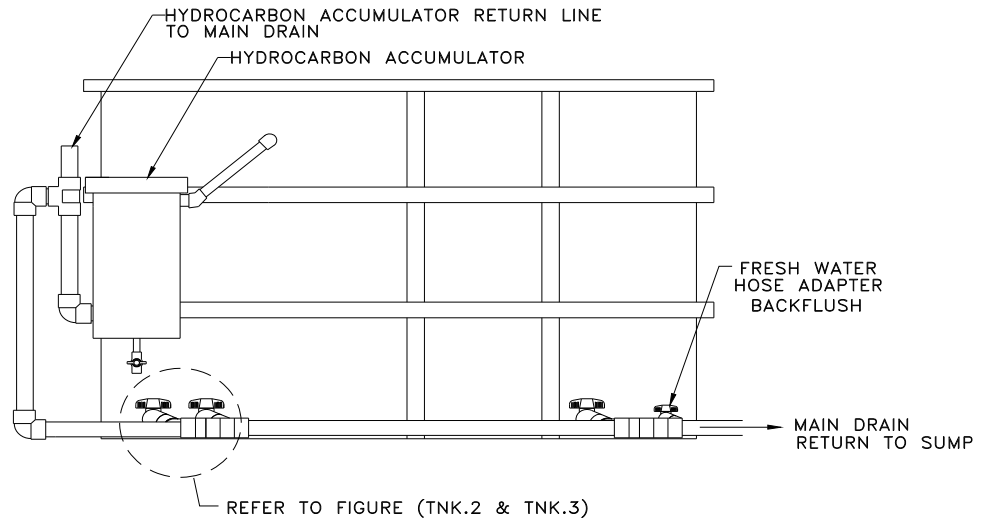

Figure TNK.4
- C. Plumb the **ACCUMULATOR OUTLET ASSEMBLY** to the **MAIN DRAIN RETURN LINE** (Fig TNK.4).